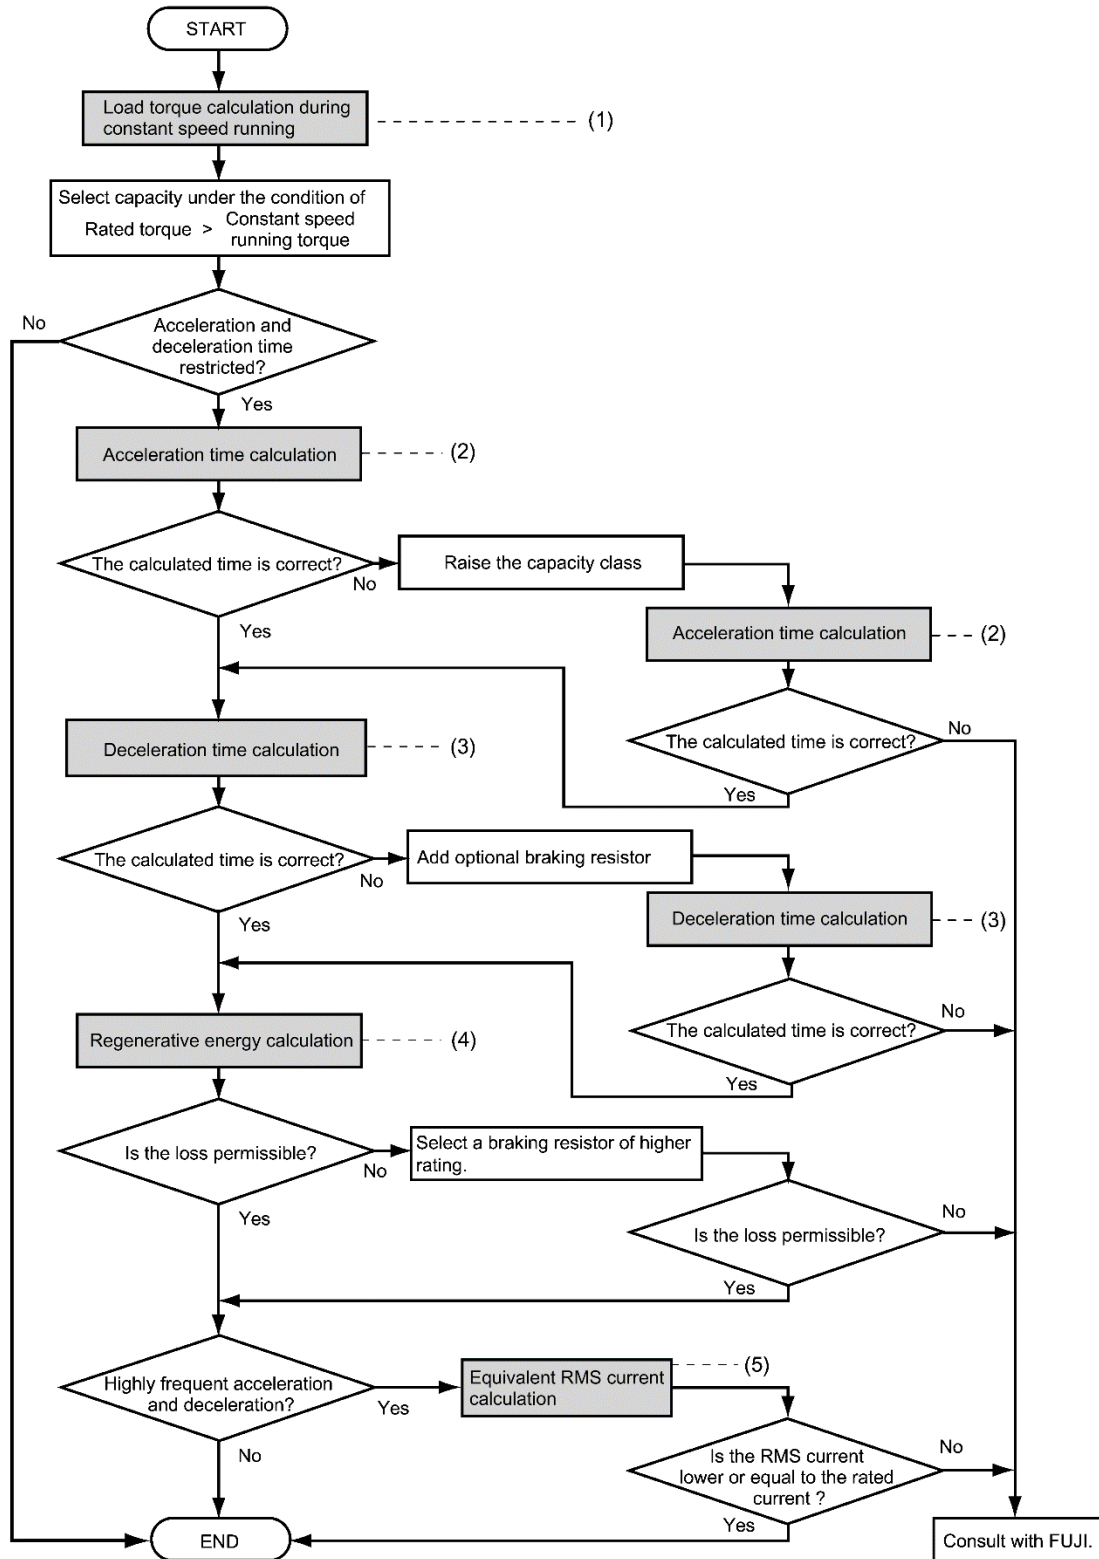

Fig. 10.2-1 Selection procedure
Fig. 10.2-1 Selection procedure shows the general selection procedure for optimal inverters. Items numbered (1) through (5) are described on the following pages.